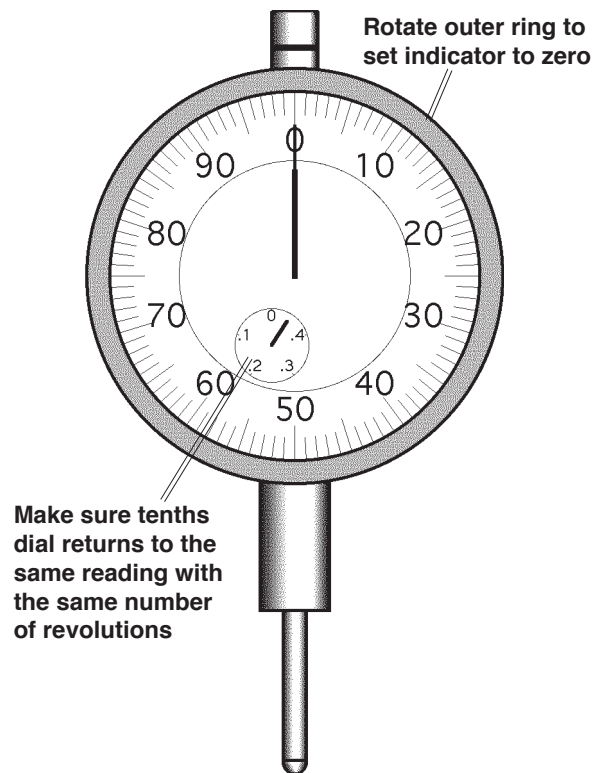

Figure 3.11 Dial indicator
3.5.9 Position the dial indicator on the gauge rod so that it contacts the gauge bracket, then set the dial indicator to zero (Figure 3.11).